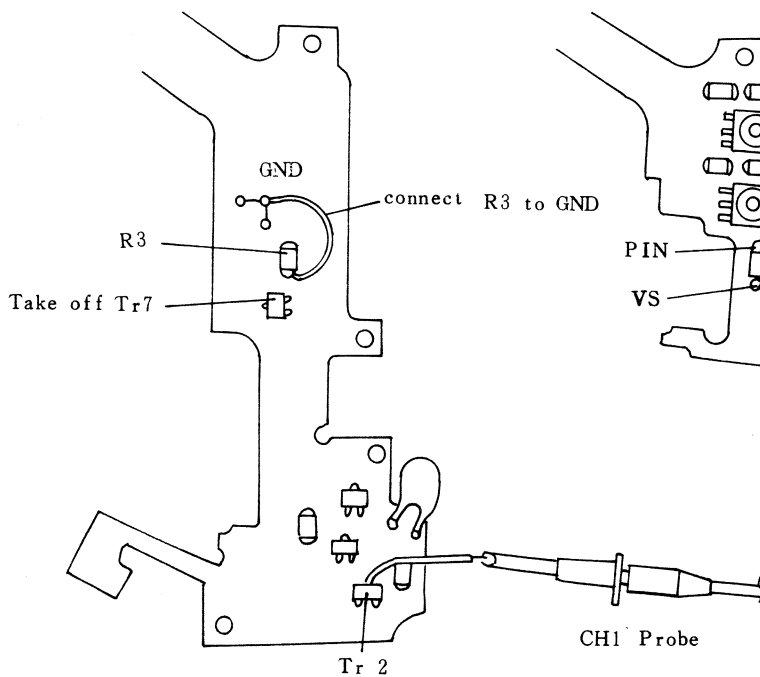

Fig 74
3. Take off Tr7. (Fig 74).
4. Connect R3 (560 Ω) directly to GND. (Fig 74).
5. Connect the CH 1 probe to Collector of Tr2. (Fig 74).